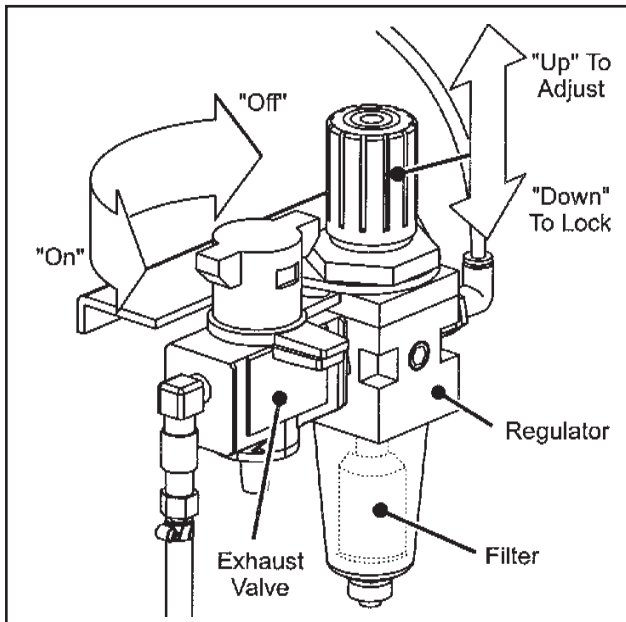

Figure 3-3 – "On/Off" Valve/Regulator/Filter
② **Main Air "On/Off" Valve/Pressure Regulator/Filter – Figure 3-3**